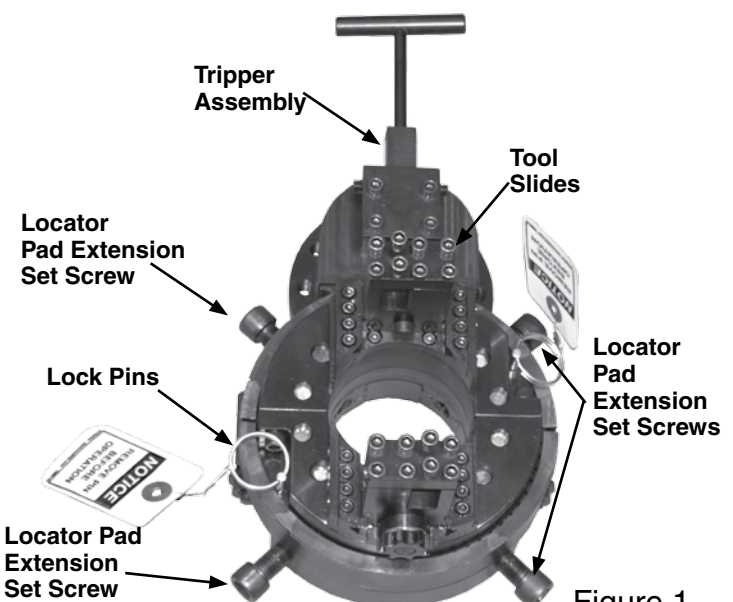
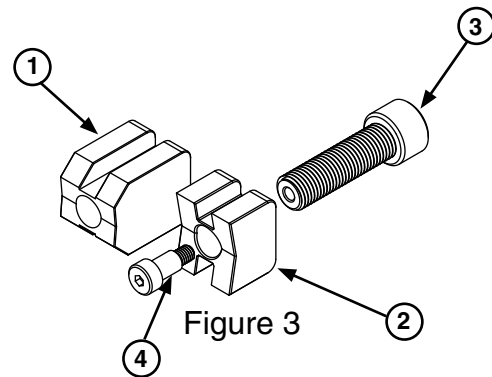

Figure 1
Figure 3
1. The tool should always be stored with the lock pins in position (see Figure 1). Remove the lock pins if they are installed. If they are not, rotate the ring gear by hand until both the gear and main body housing split lines are aligned.
4. Determine pipe O.D. If required, use the extended-reach locator pads (see Figure 3). The locator pads are adjusted by turning the set screws that are accessed from the outside of the housing with a 3/8" hex key (see Figure 1). Back-up the locator pads as needed for the proper clearance of the pipe diameter. The optimum position is to have as much of the foot in the pocket of the body ring as possible. This adds rigidity to the entire machine. Ensure the motor mount area will be accessible when the clamshell is tightened into position.